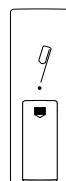

Fig. 27
- Press the **learn button** on the remote control (Fig. 27) **you want to program within the 8 peep tones**. The motor confirms this input with a short turn once in one direction.